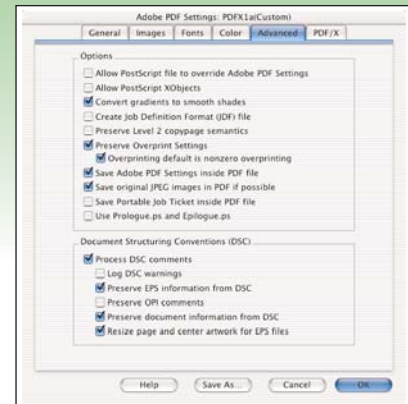

Figure 5
**THE ADVANCED JOB OPTIONS** contains all of the settings that are necessary for high-end printing (Figure 5). Options here include the ability to include portable job ticket information, OPI information, and overprints in a PDF file. PostScript smooth shading is also enabled in the Advanced job options.